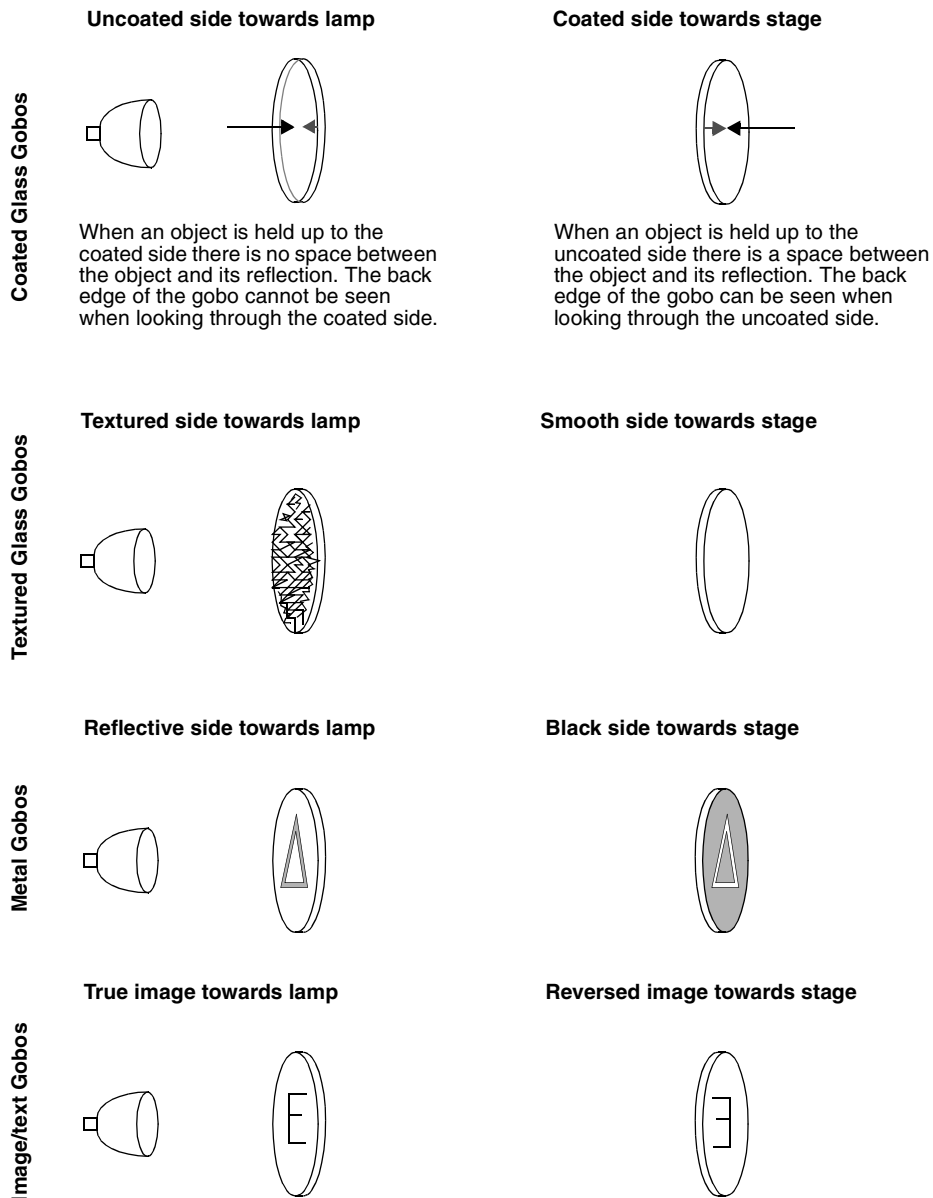

Figure 9: Gobo orientation
Figure 9 shows the correct orientation for different gobo types. When in doubt, install gobos with the more reflective side towards the lamp.
- 4 Insert the new gobo in the holder with the “stage” side down, away from the spring. See Figure 9 and Figure 10.
- 4 To insert a gobo, orient the gobo as shown in Figure 9 and place the edges under the retention spring. Verify that the gobo is centered in the opening.